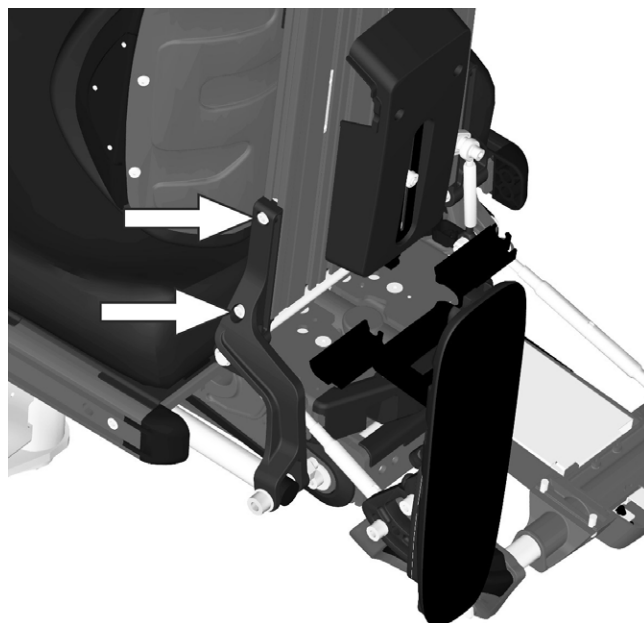

Figure 196. The backrest profile is secured using two screws on the left and right
6. Remove the backrest profile, which is secured using two screws on the left and right. See fig. 196. Remove by undoing the screws and pulling the backrest profile straight up.